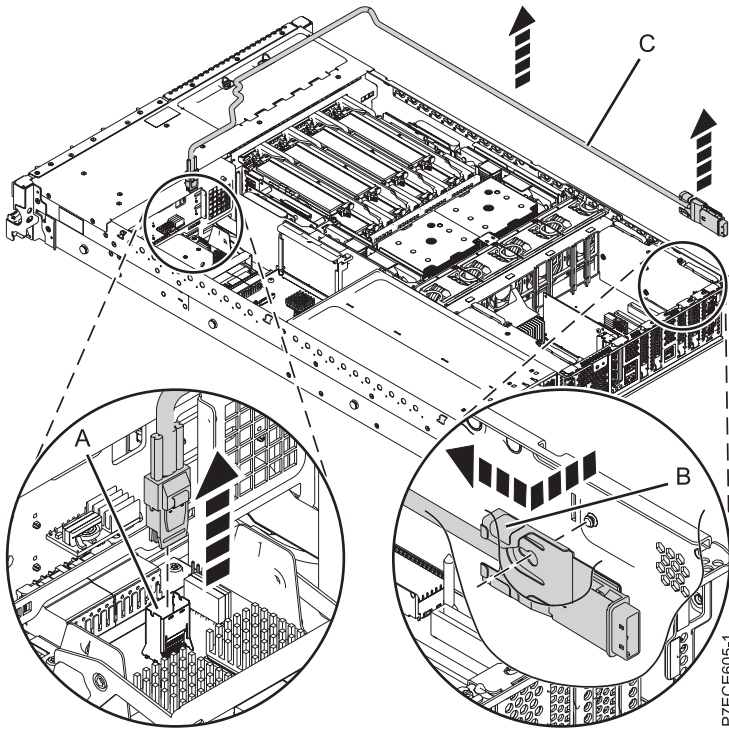

Figure 27. Removing the external SAS port
9. Pull the cable bracket at the blue touch point **(B)** and slide the SAS cable out of the external SAS port opening in the rear of the chassis. See Figure 27 on page 48.